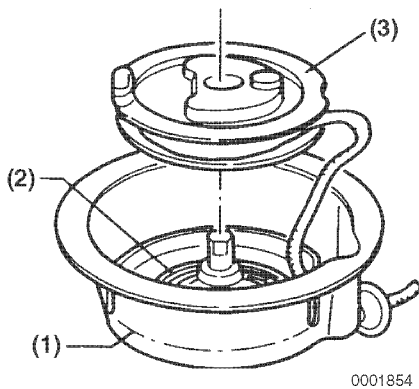

Figure 8-40
- Carefully remove the reel (**Figure 8-40, (3)**) from the starter housing (**Figure 8-40, (1)**) while turning it gently left and right to disconnect the boss from the spring (**Figure 8-40, (2)**).